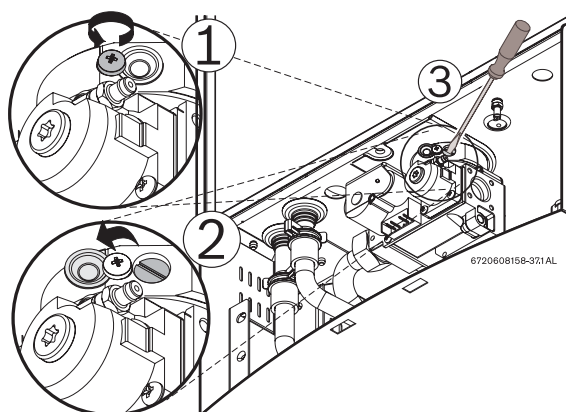

Fig. 55 Adjusting P1 CO₂ level
- ▶ Loosen yellow painted philips screw (1) and cover should rotate down (2) revealing a recessed brass slotted screw. Fig. 55.